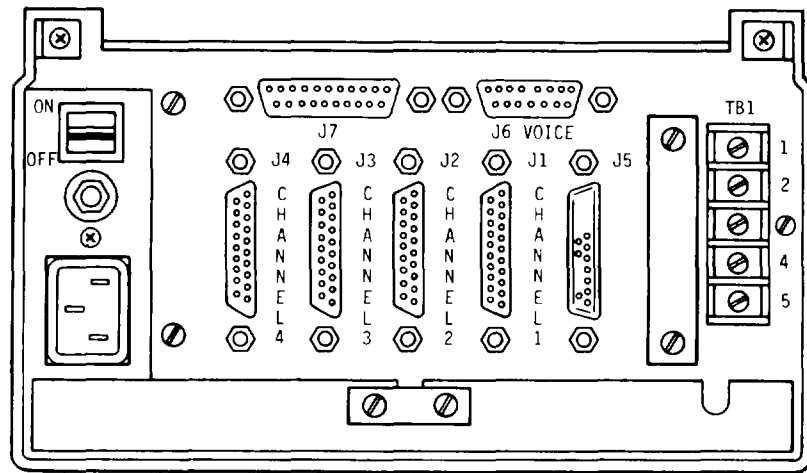

Figure 1-11. Domestic 1/0 Board (A9), Rear Panel Connectors
e. Rear Panel I/O Board (A9) Jumpers. The domestic rear panel and associated connectors (fig. 1-11) are part of a plug-in circuit board assembly which installs in modem board slot A9. J1, a 25-pin connector, is the standard interface connector supplying input/output data, control, status, and timing interface signals between the modem and the data terminal equipment. J2 thru J4 are identical to J1 and are used for channels 2 thru 4 of the multiplexer option. J5, a 25-pin connector, is normally used to terminate the telephone transmit and